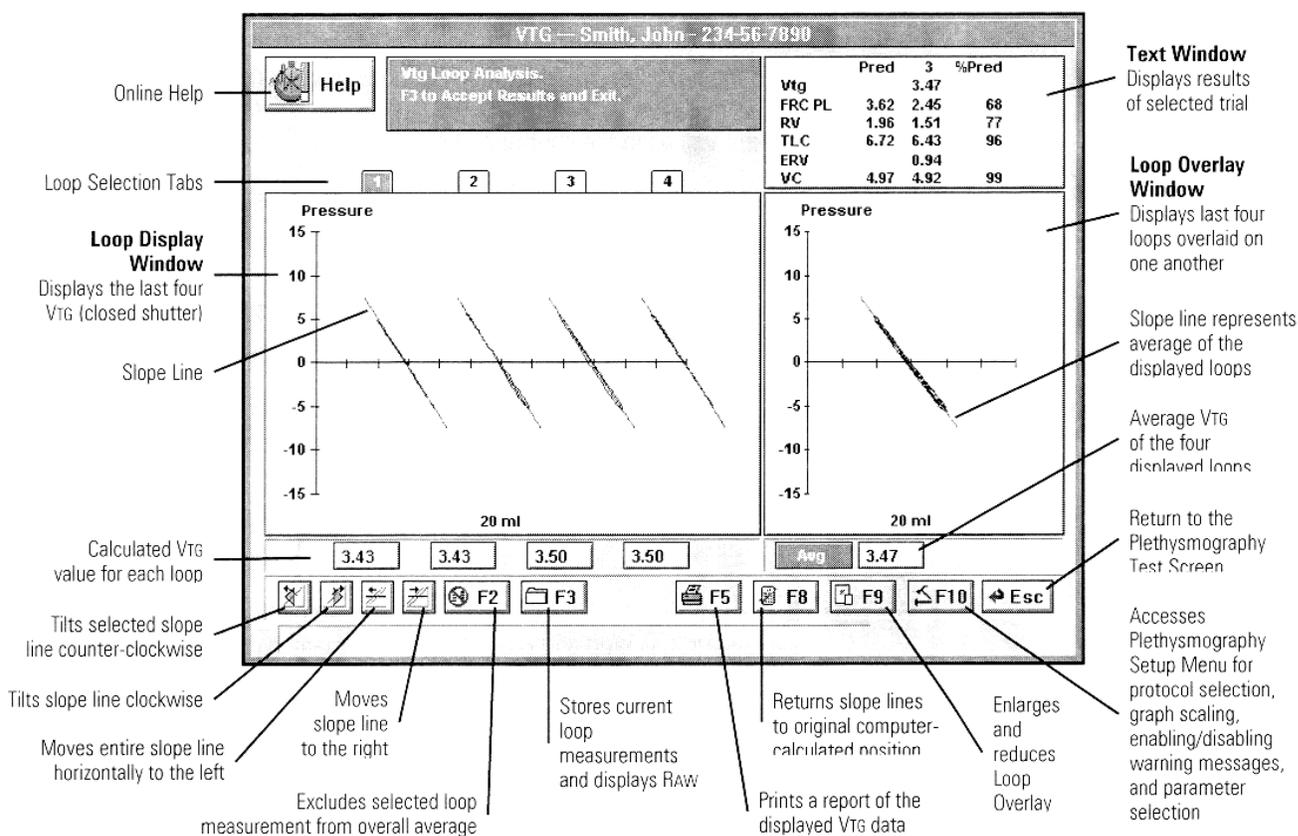

Figure 6-2 – VTG Loop Review Box
1. Select **F7** to access the **VTG Loop Review** box (Figure 6-2).